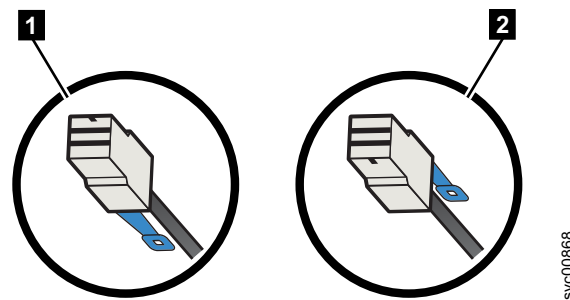

Figure 39. SAS cable connector orientation
- When you connect an expansion enclosure, the blue pull tab must be below the cable (**1** in Figure 39 on page 35).
- When you connect a 2145-SV1, the blue pull tab must be above the connector (**2** in Figure 39 on page 35).